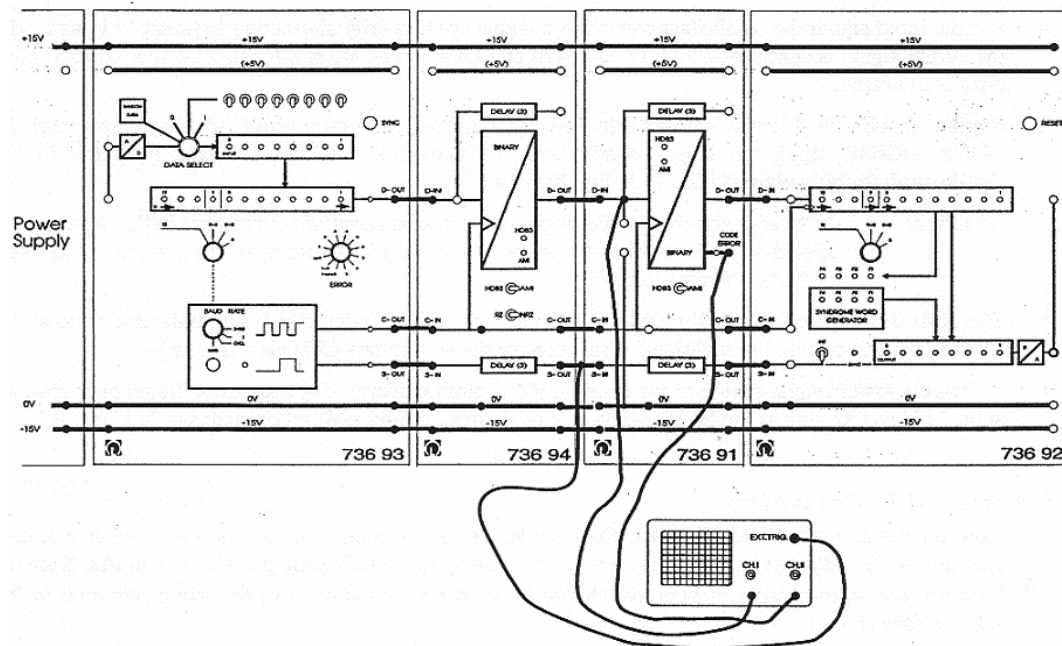

Figure 7-1: Experiment set-up for experiment 7.
- Set up the experiment as specified in Figure 7-1 and switch on the power supply unit.